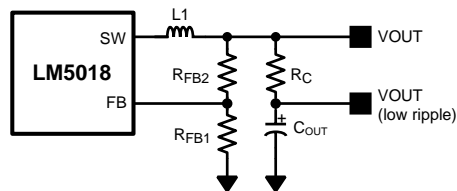

Figure 10. Low Ripple Output Configuration
This regulator regulates the output voltage based on ripple voltage at the feedback input, requiring a minimum amount of ESR for the output capacitor (C_{OUT}). A minimum of 25 mV of ripple voltage at the feedback pin (FB) is required for the LM5018. In cases where the capacitor ESR is too small, additional series resistance may be required (R_C in Figure 10).
For applications where lower output voltage ripple is required, the output can be taken directly from a low ESR output capacitor, as shown in Figure 10. However, R_C slightly degrades the load regulation.